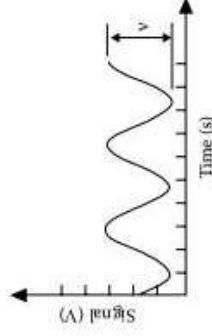

**FIGURE 2.77** Crankshaft position sensor. (From Pawlak, A.M., *Proceedings of the NIFE '99 Conference*, San Francisco, April 12-14, 1999. With permission.)
- The electronic module, shown in Figure 2.77, processes the signal from the sensor to determine a crankshaft position and engine speed.